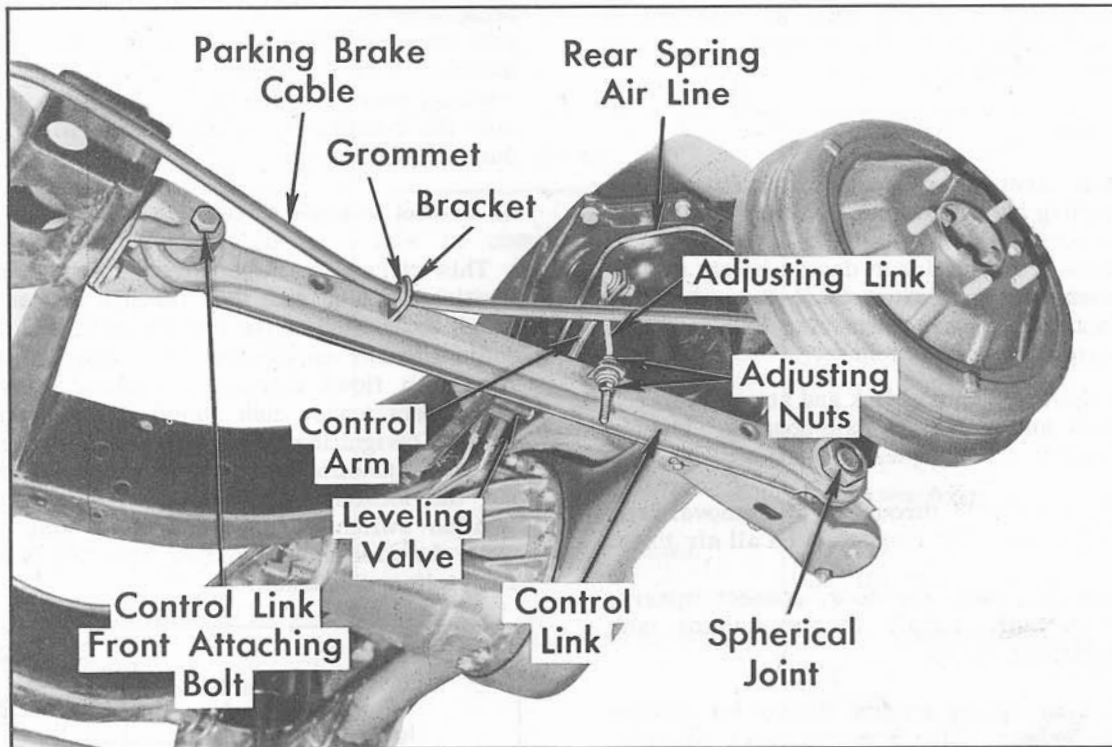

Fig. 4-30 Control Link Removal
7. Draw parking brake cable through grommet in bracket on outer side of control link, Fig. 4-30.
10. Remove attaching bolt from front end of control link at body mounting bracket. See Fig. 4-30.